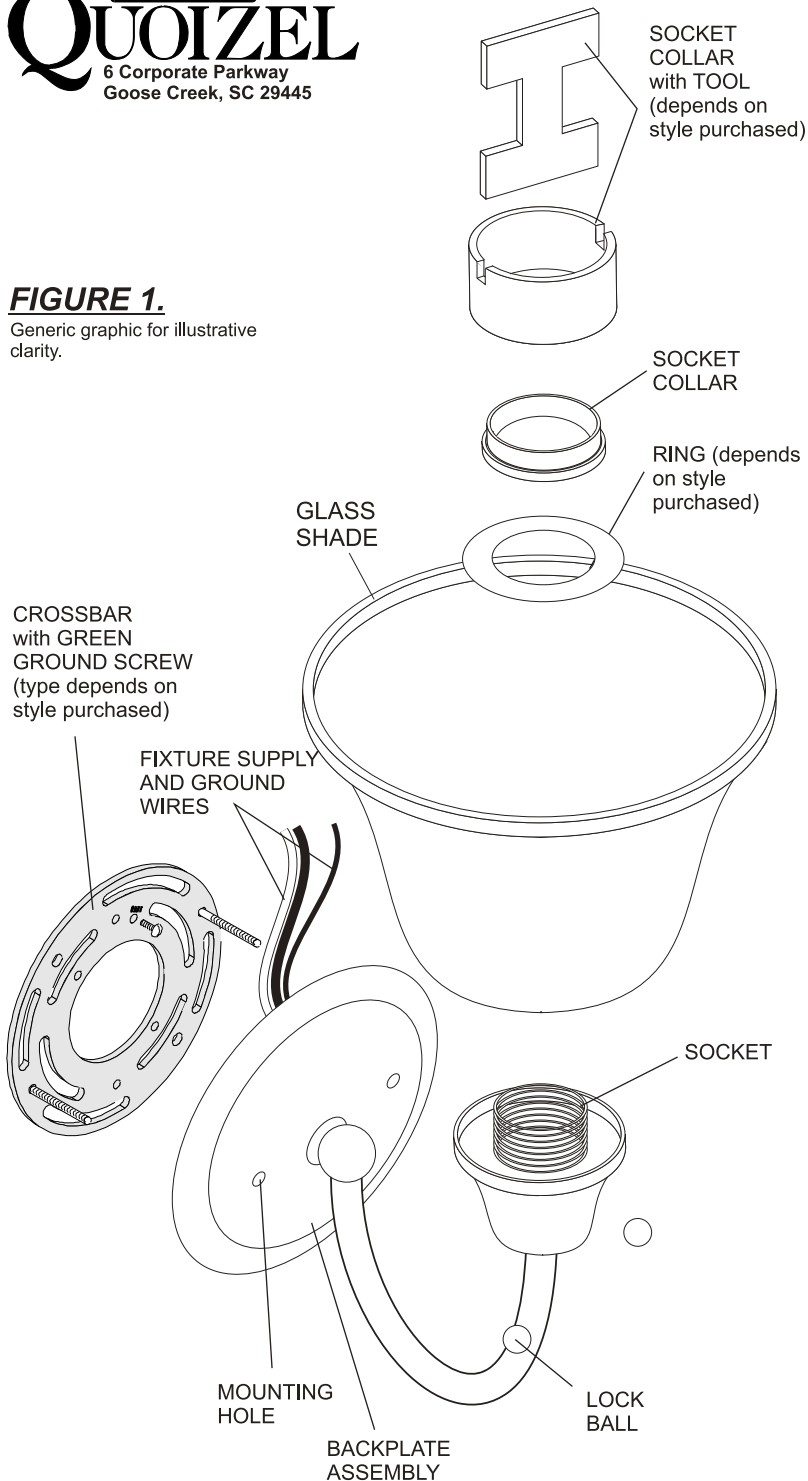

FIGURE 1.
1. Before beginning the assembly/installation, carefully unpack and identify all parts, referring to the illustration (see FIGURE 1). Note: part quantity depends on style purchased.